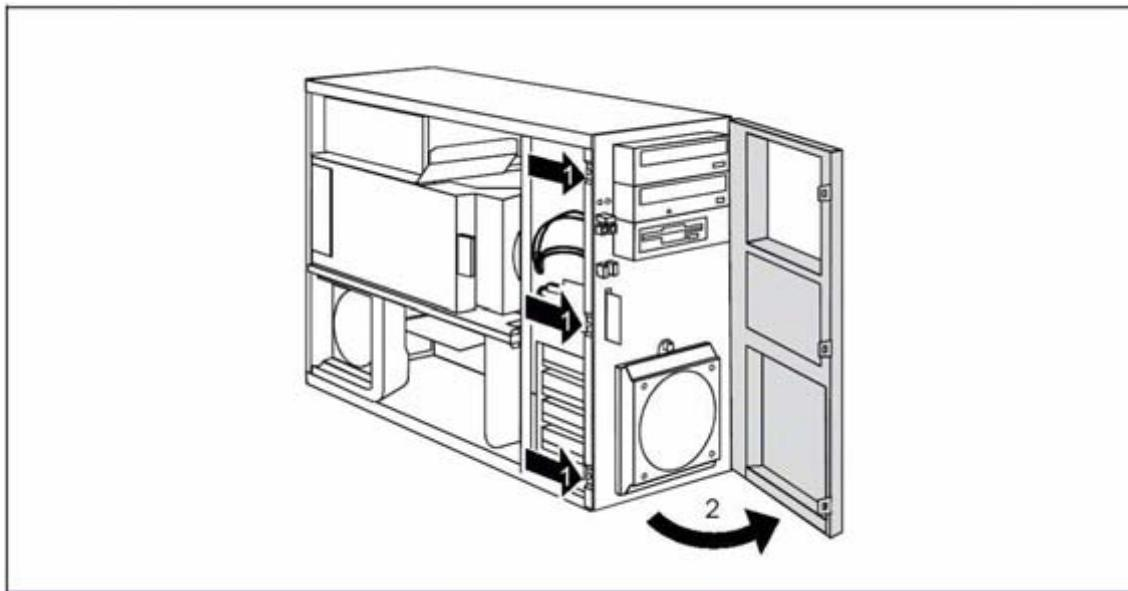

Fig. 51: Opening the front panel M450\_
3. Detach the three locking tabs on the left side of the front panel (1/Fig. 51 / p. 96).
4. Open up the front in the direction of the arrow (2/Fig. 51 / p. 96).